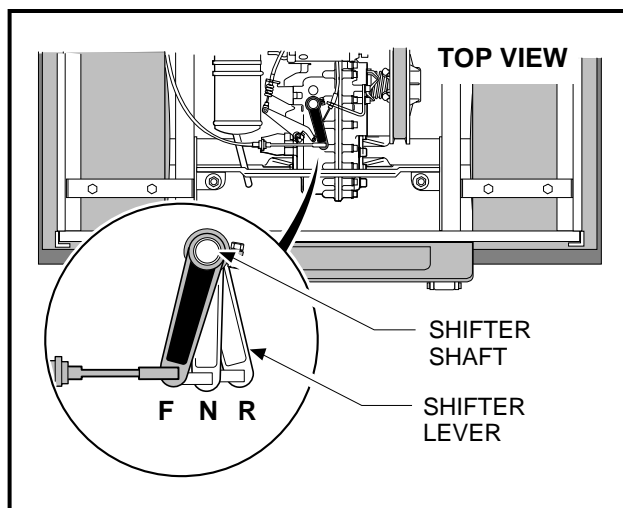
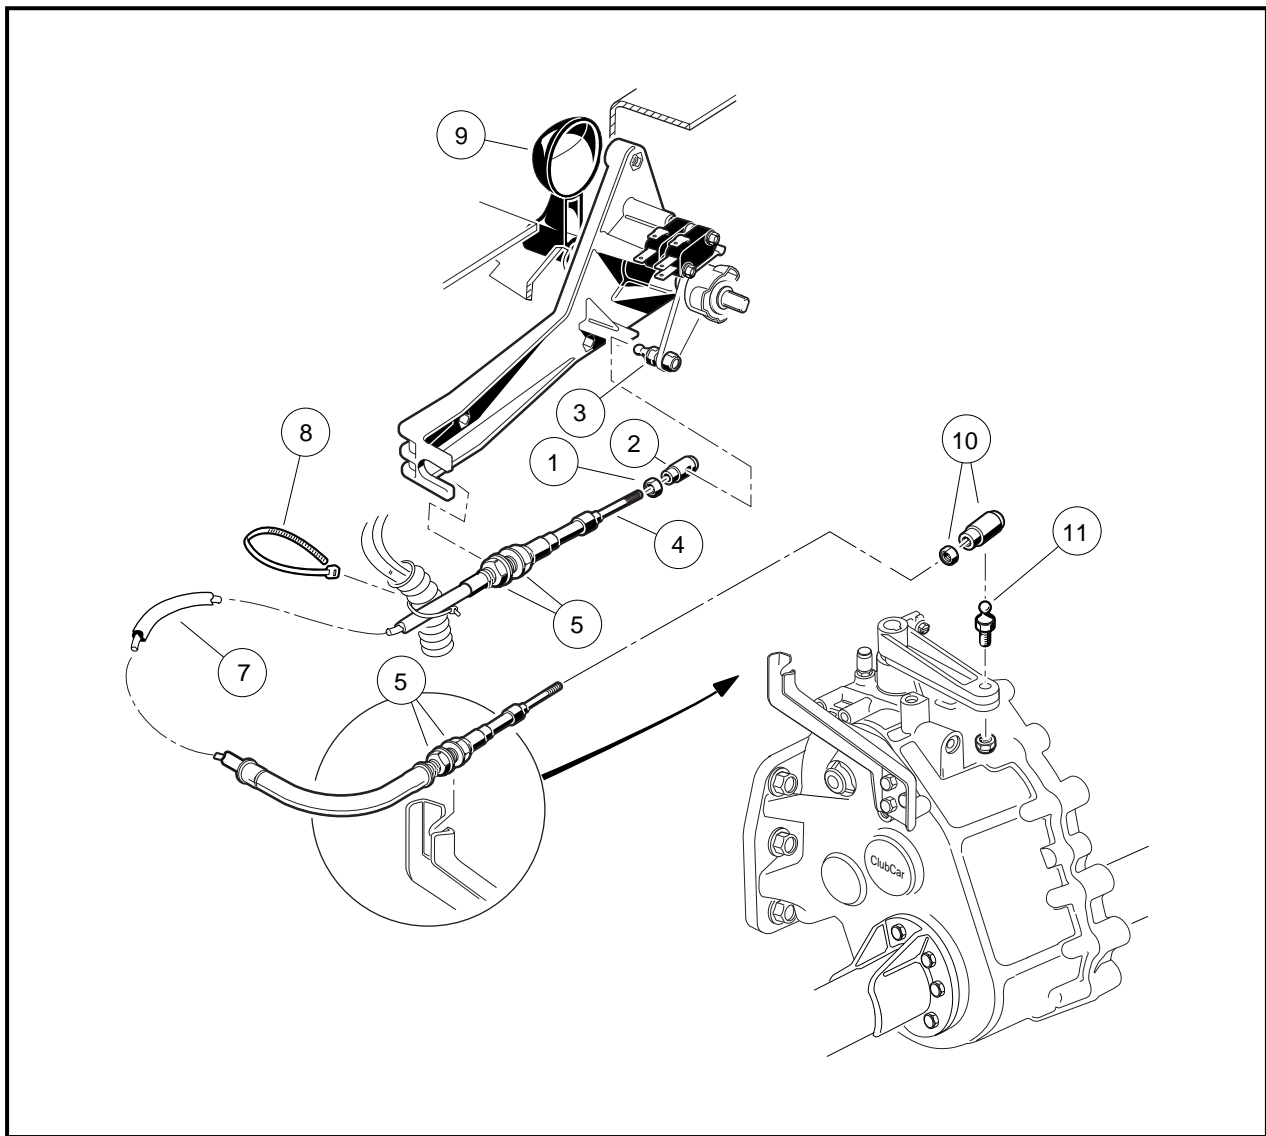

Figure 16-103 F&R Positions
Figure 16-104 F&R Shifter Cable
1. Remove the ball joint socket (2) from the F&R shifter assembly ball stud (3) (**Figure 16-104, Page 16-42**).
2. Remove the ball joint socket (10) from the shifter arm ball stud (11) on the transaxle (**Figure 16-104, Page 16-42**).
3. Loosen the retaining nuts (5) on both ends of the cable and remove the wire tie (**Figure 16-104, Page 16-42**).
2. Secure the cable with a retaining nut (5) on each side of the shifter cable support bracket at the transaxle (**Figure 16-104, Page 16-42**). Tighten nuts to 22 ft-lb (29.8 N·m).
3. Secure the cable with a retaining nut (5) on each side of the shifter cable support bracket at the F&R assembly (**Figure 16-104, Page 16-42**). Tighten nuts to 43 in-lb (4.9 N·m).
4. Install the ball joint socket (10) on the shifter lever ball stud (11) on the transaxle (**Figure 16-104, Page 16-42**).
5. Install the ball joint socket (2) on the F&R shifter assembly ball stud (3) (**Figure 16-104, Page 16-42**).
6. Install wire tie (8) to secure wire harness to cable at the support bracket near the F&R shifter assembly (**Figure 16-104, Page 16-42**). See following **WARNING**.
With the shifter lever of the unitized transaxle in the NEUTRAL position (**Figure 16-103, Page 16-41**), the Forward/Reverse handle (9) (**Figure 16-104, Page 16-42**) should be straight up. For minor adjustments, the nut (1) may be loosened and the ball joint socket (2) rotated to get the proper adjustment (**Figure 16-104, Page 16-42**). See following **CAUTION**.
For major adjustments, the cable retaining nuts (5) must be loosened and adjusted. When the cable is properly adjusted, with the Forward/Reverse handle (21) (**Figure 16-104, Page 16-42**) in the NEUTRAL position, the shift lever of the transaxle will also be in the NEUTRAL position (**Figure 16-103, Page 16-41**). Retighten nuts to 22 ft-lb (29.8 N·m); retighten nuts (5) at the F&R assembly to 43 in-lb (4.9 N·m).